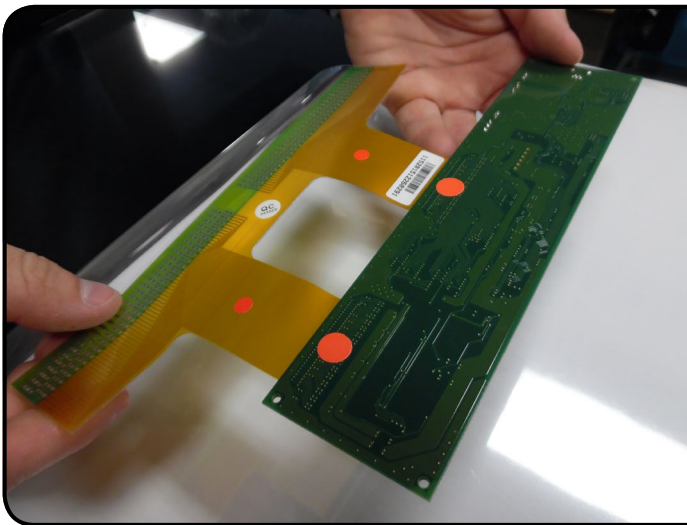

Figure 1
2. Attach your PCB Controller Board to your PROFoil tabs by making sure the orange stickers on the back of each are aligned and on the same side (usually the bottom side, see *Figures 1 - 2*).